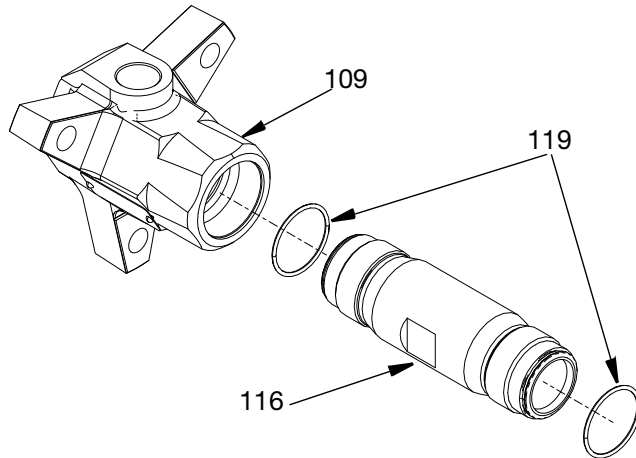

FIG. 25
1. Lubricate the O-ring packing (105) and install them onto both ends of the cylinder (116).
2. Mount the outlet housing (109) into a bench vice.
3. Apply anti-seize to the threads on both ends of the cylinder (116) and screw the cylinder into the outlet housing (109). Note the cylinder is symmetrical so either end can be used. See FIG. 25. Torque to the following specifications: